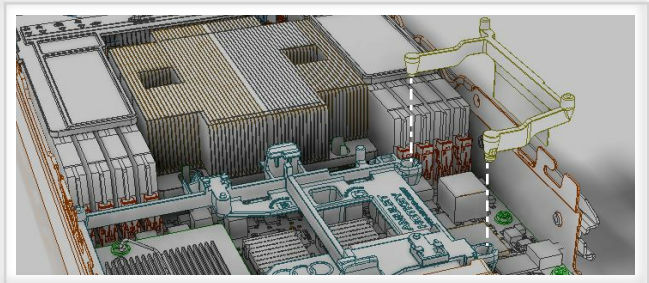

Figure 3: Install the mezzanine support bracket extension (part B)
1. Push the ends of the two arms of the mezzanine support bracket extension (part B) into the holes in part A so that it clicks into place. See Figure 3.